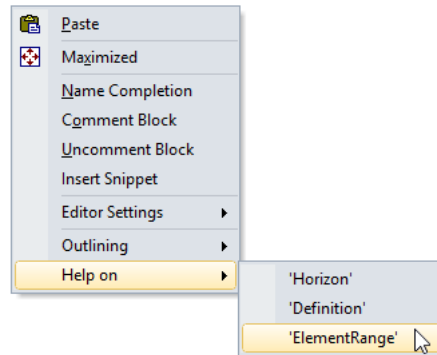

Figure 6.13: A right-mouse pop-up menu
- ▶ select the `ElementRange` entry in the **Help on** submenu (see Figure 6.13).